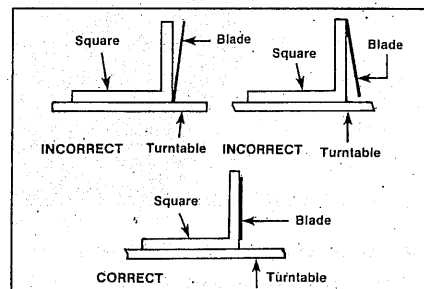

Fig. 17
2. Place a square against the turntable and saw blade as shown in Figure 17. Make sure that the square contacts the flat of the blade rather than the blade teeth.